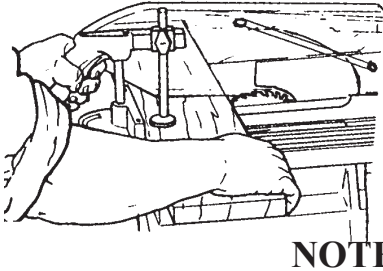

Figure D-1
4. Squeeze the safety grip and turn on the Mark 7. Set to the correct speed, then guide the stock past the blade. Use your free hand to help keep the stock against the miter gauge face. See Figure D-1.